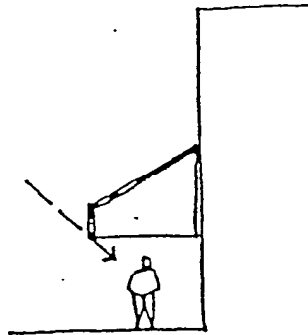

Figure 38
- ☐ Use fabric awnings. Awnings with a sloped front face are preferred over curved awning faces (Figure 38).